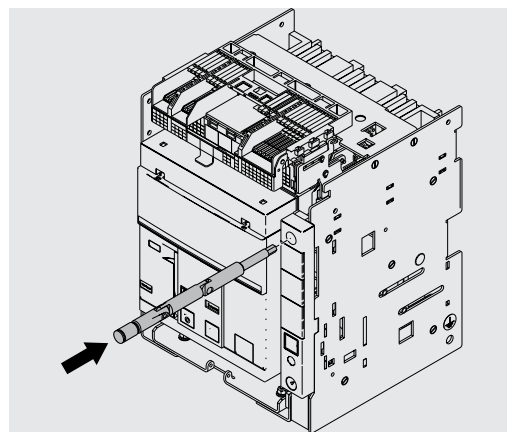

Figure 62
9. Replace the crank in its housing See Figure 62.